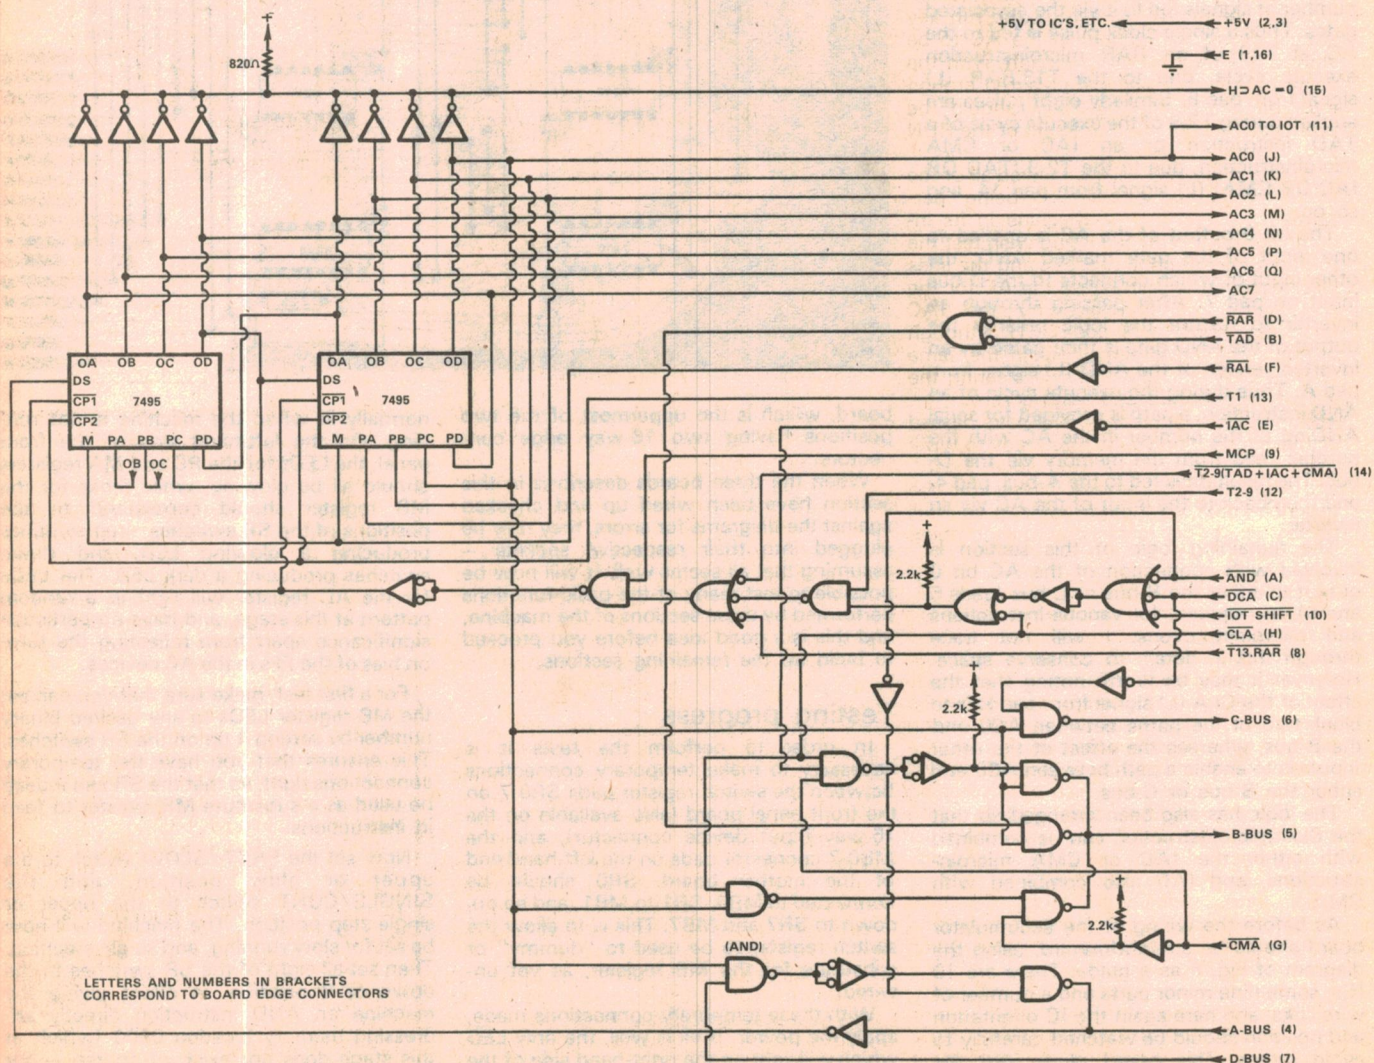

FIG. 5
The third section of EDUC-8 to be described at this stage is that comprising the accumulator (AC) register and its associated logic. This section is on the plug-in board coded E8/A, and for convenience described as the accumulator board. The logic diagram is shown in Fig. 5.